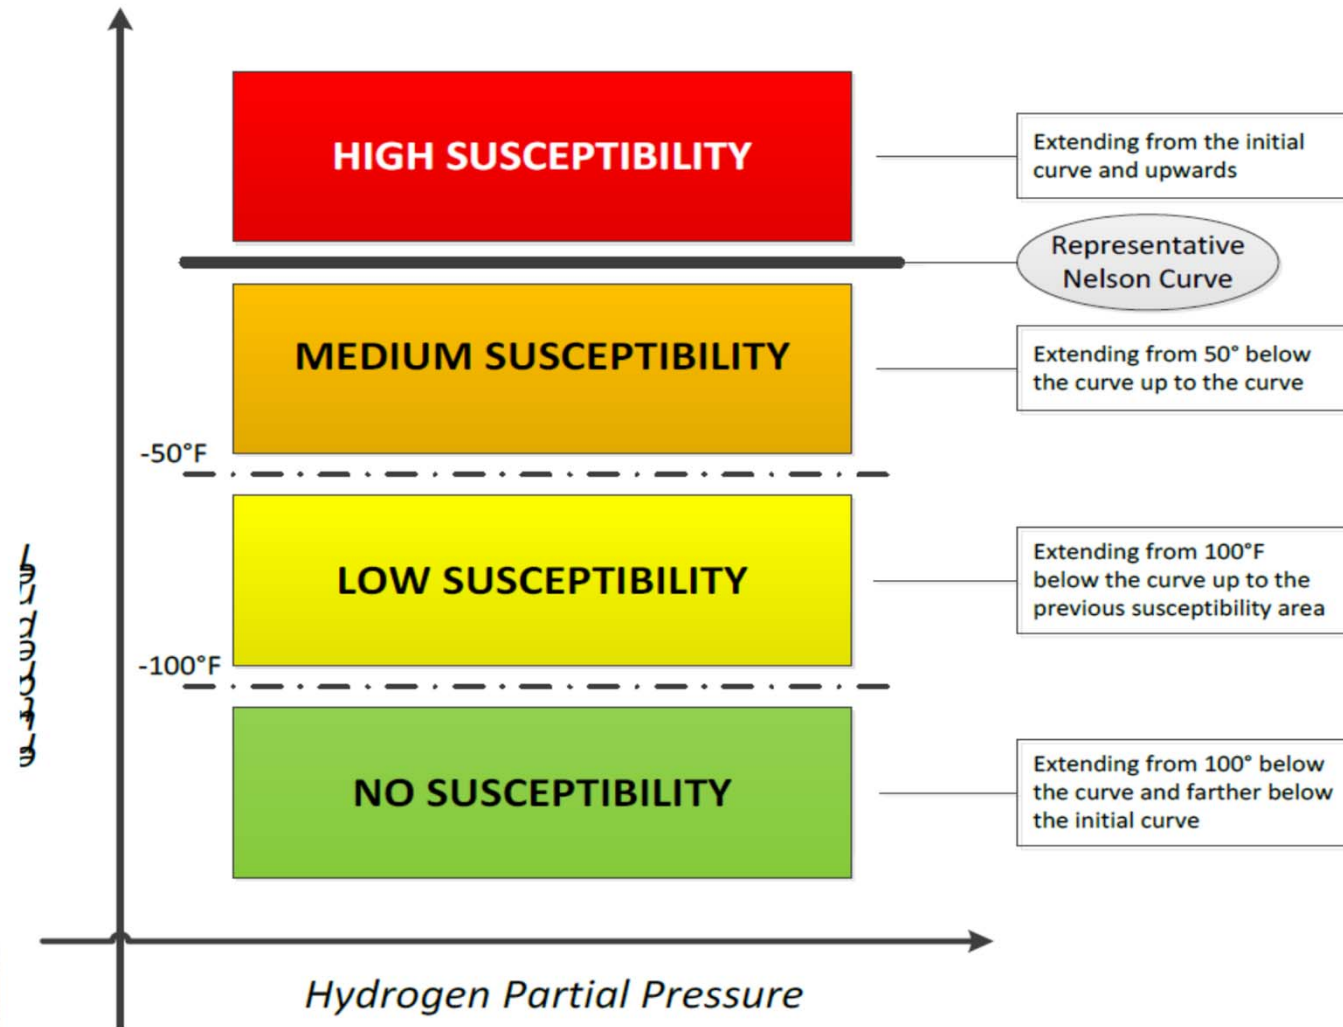

Figure 19.1—Example of HTHA Susceptibility Rankings for Cr-Mo Low Alloy Steels
- Assign HTHA susceptibility using Figure 19.1.